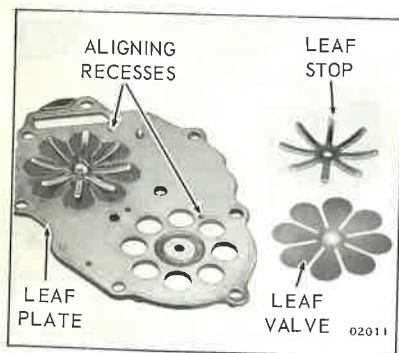

Figure 3-17. Disassembling Leaf Valves
a. Inspect the leaf plate assembly and disassemble if necessary. The leaf valves must be free from all varnish and gum, and the leaves must lay perfectly flat so they form a perfect seal with the leaf plate base. See Figure 3-17.
c. Attach the two leaf valves and stop assemblies to the leaf plate base. Center leaf valves over recesses in plate. See Figure 3-17. Tighten screws to torque specified in Section 2 to avoid distortion of the leaves or leaf plates.